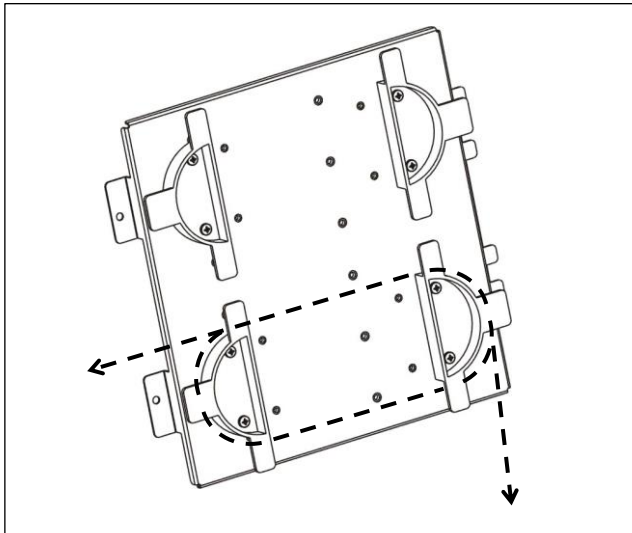

Figure 11. Cable take-up reel routing
- ① Slide the two narrower tabs at the edge of the SPL-4H into the openings on the side of the WR-15U23, toward the rear of the mounting.
- ② Align the wide tabs at the front edge of the SPL-4H with the threaded holes on the side of the WR-15U23 frame. Use the two (2) included #10-32 x 3/8" screws to securely fasten the side plate to the frame.
- ③ Carefully wrap cables around the take-up reels to reduce slack as needed. Example routing is shown in Figure 11. Alternate mounting holes are included on the side plate for repositioning the half-reels, if desired.